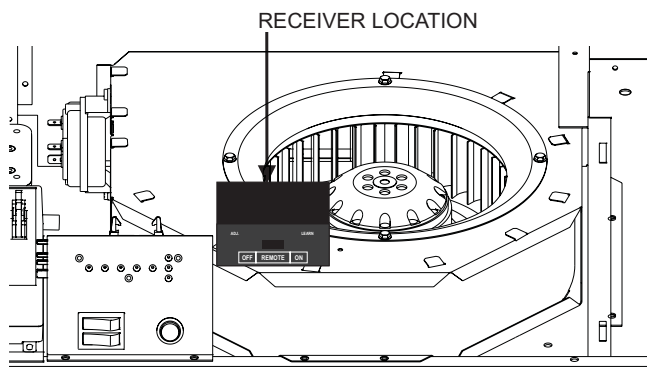

Figure 54
- A. With main electrical power to the heater turned off, install 4 AA sized 1.5V batteries into the remote receiver. The remote receiver is located inside the heater, mounted to the top of the blower housing and secured with hook and loop tape. See Figure 54. Set up receiver and remote per instructions on pages 32 - 37.